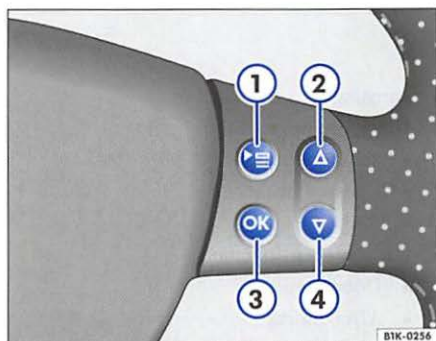

Fig. 9 Multifunction steering wheel: right side
- Press the button on the multi-function steering ⇒ fig. 9 ① until the Settings menu is displayed.